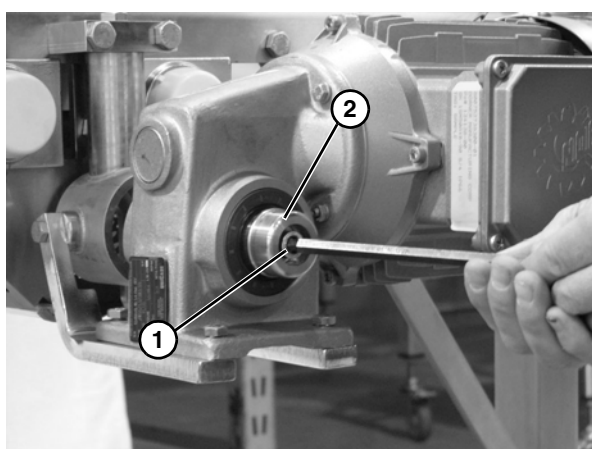

Figure 58
6. Remove the plastic cap on the end of the motor and remove the socket head screw (Figure 58, item 1) and the bore plug (Figure 58, item 2).